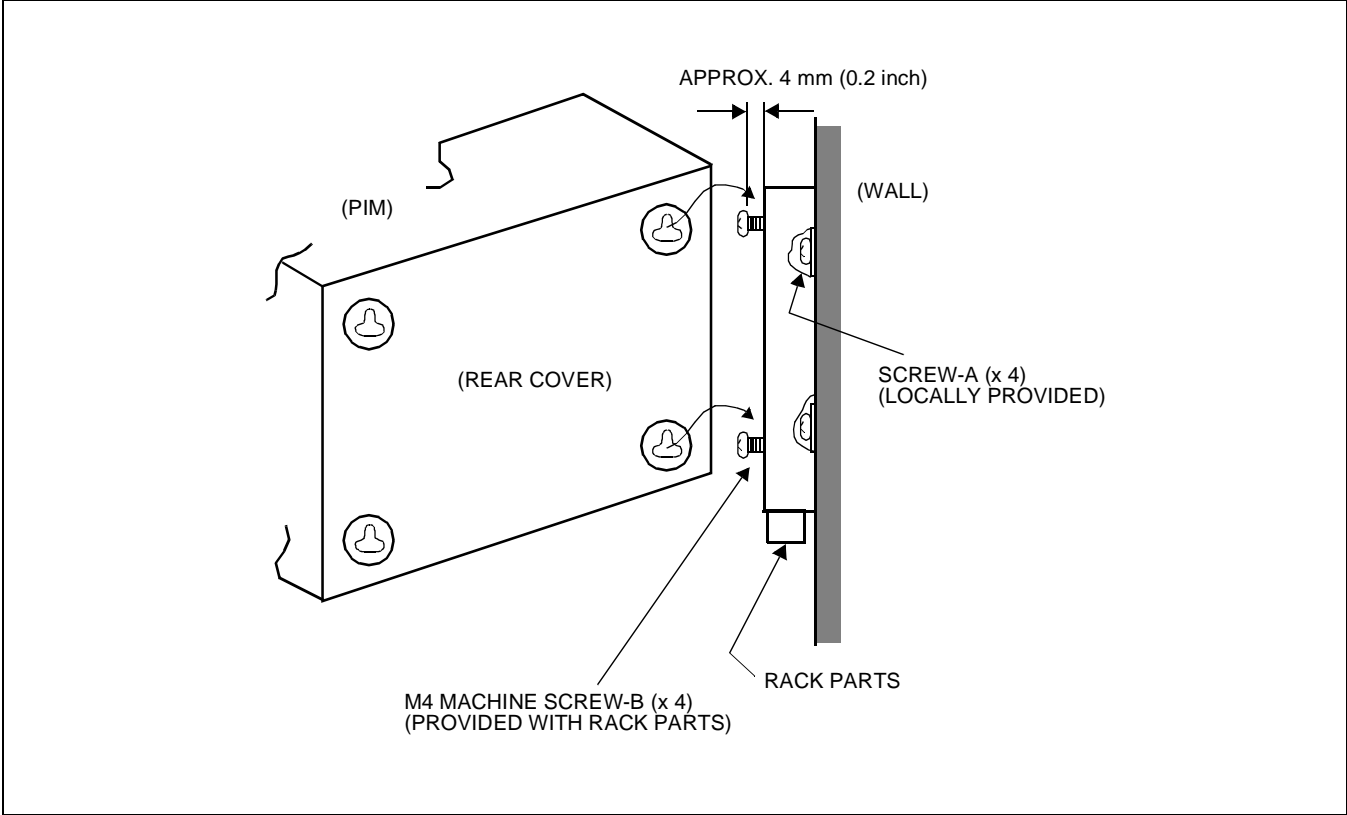

Figure 003-23 Mounting the PIM to the RACK PARTS
For proper mounting of each PIM, approximately 4 mm (0.2 inch) spacing should be provided between the inner face of the M4 machine screw and the RACK PARTS front channel. See Figure 003-23.
(4) Align and insert the key hole slots of the rear cover of each PIM to the machine screws secured in step (3). See Figure 003-23.